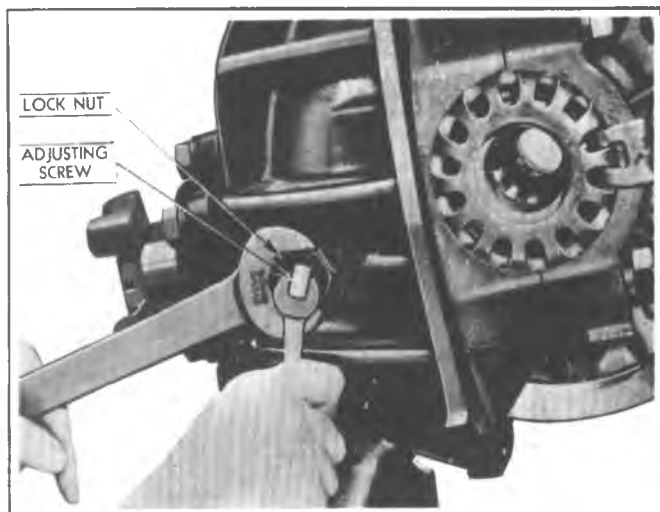

Fig. 11G-Ring Gear Thrust Pad Adjustment
3. Back off screw one-twelfth (1/12) turn and tighten locknut to specifications. See figure 11G.